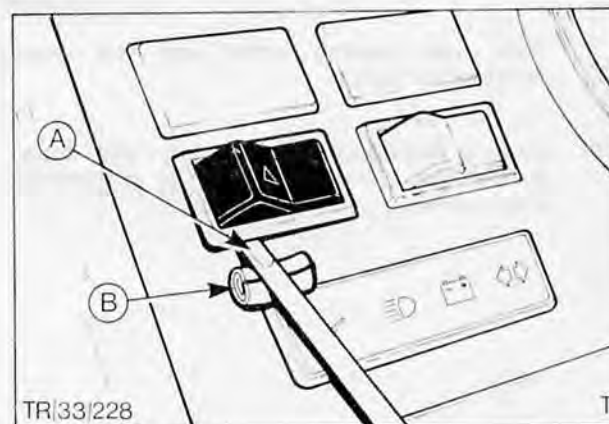

Fig. 54. Removing switch
2. Using a soft cloth or a wad of paper, cover instrument cluster bezel area immediately below switch location, Fig. 54.